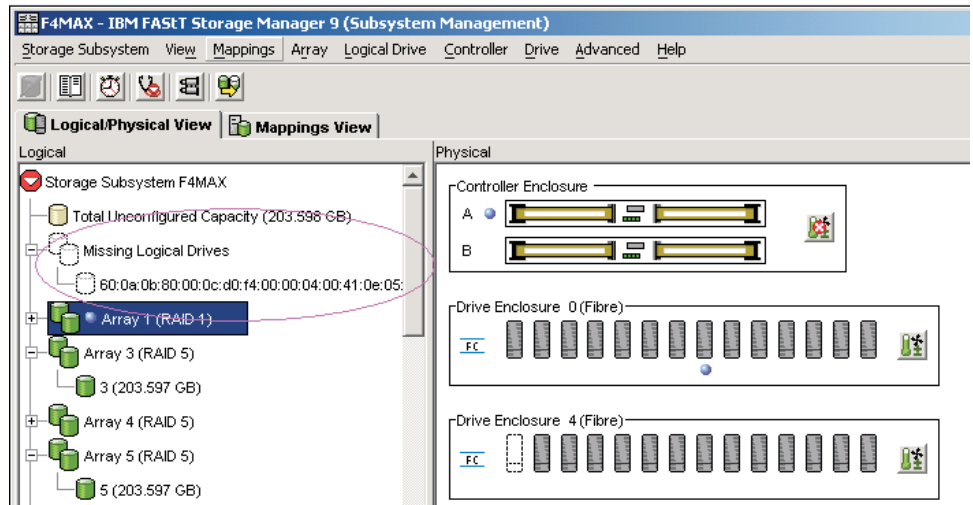

Figure 24. Subsystem Management Logical/Physical View of missing logical drives
7. Wait for the storage manager to mark the arrays/logical drives as missing in the Subsystem Management window. See Figure 24.